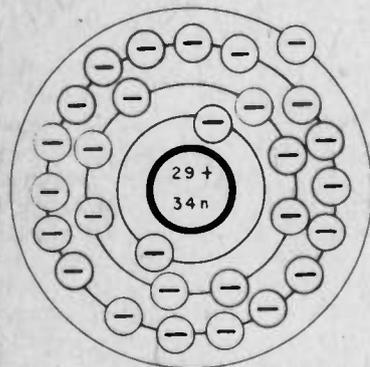

Fig. 3. The number of electrons to each ring are limited—2 in first; 8 in second; 18 for the third; and a total of 32 in fourth orbital ring.
**Electrons in Orbit.** An atom of matter has a number of electrons orbiting around its nucleus. A hydrogen atom, for example, has a single electron; carbon on the other hand has 6. These electrons are arranged in rings or shells around the central nucleus—each ring having a definite maximum capacity of electrons which it can retain. For example, in the copper atom shown in Fig. 3 the maximum number of electrons that can exist in the first ring (the ring nearest the nucleus) is two. The next ring can have a maximum of eight, the third ring a maximum of 18, and the fourth ring a maximum of 32. However, the outer ring or shell of electrons for any atom cannot exceed eight electrons. However, heavier atoms may have more than four rings.